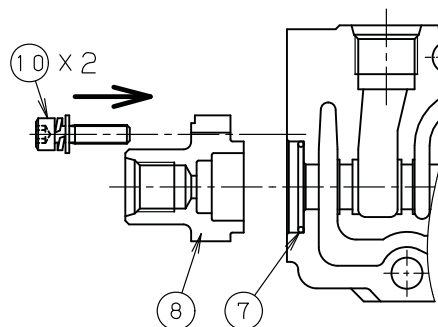

Fig.20 Pilot cover
■ **Pilot cover (see Fig.20)**
- ① Install O-ring (7) securely on the flange bottom of the body.
- ② Insert pilot cover (8) into the flange of the body.
- ③ Fasten 2 hex socket head bolts with washers (10) with specified torque with 4 mm hexagonal wrench.